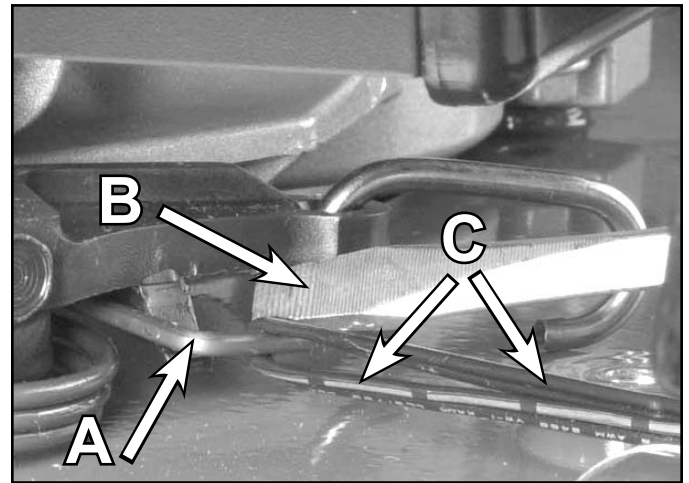

Fig 200
10. Hold the idler/brake arm in place. Slip the spring over the end on top of the deck as shown. Install the lever and install the screw through the lever and idler/brake arm shaft (Fig. 200). Once the screw is secured take a loop of wire or rope and hook the end of the spring. Pull it towards you and hook the end as shown.